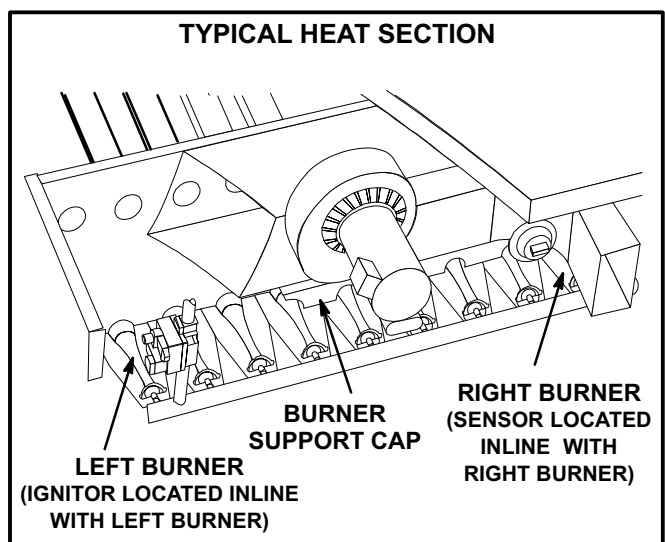

FIGURE 18
- 1- Loosen four screws and remove burner support cap. See figure 18.